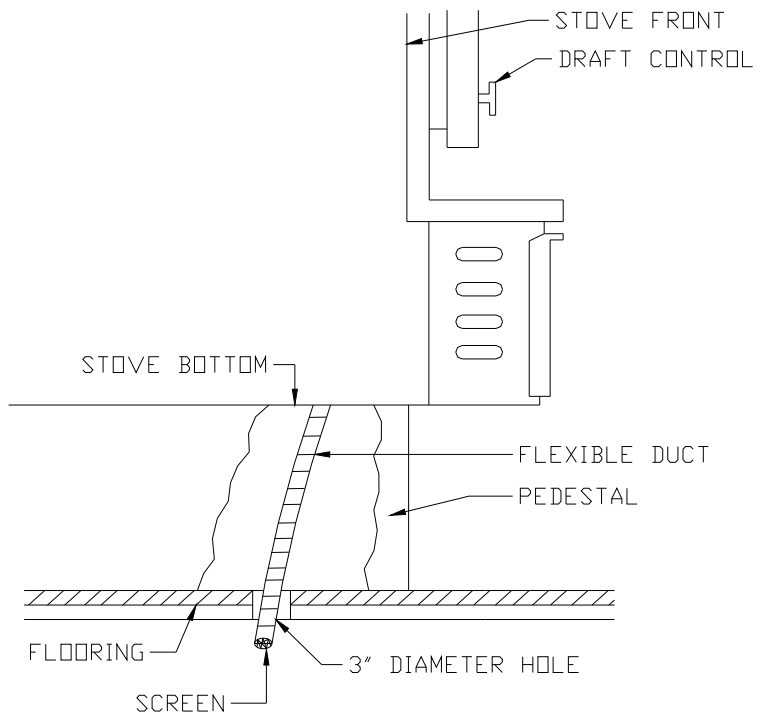

FIGURE 11
- (A) The structural integrity of the mobile home floor, wall, and ceiling/roof must be maintained throughout the installation.
- (B) DO NOT install the 4N1-XL stove in a sleeping room.
- (C) Be sure to provide means for the secure installation of the stove to the floor of the mobile home.
- (D) Stove pipe used to connect the stove to the chimney or flue MUST BE double-wall insulated pipe, or equivalent, NOT single wall pipe.
- (E) A source of external combustion air must be provided using the optional mobile home installation kit.
- (A) Position the pedestal on the floor protector where the stove will be installed.
- (B) Mark and cut a 3" diameter hole through the floor protector and flooring materials for the installation of the flexible duct.
- (C) Attach the flexible duct to the air pipe opening, then attach the pedestal to the bottom of the stove. (FIGURE 11)
- (D) Proceed with the normal freestanding installation.